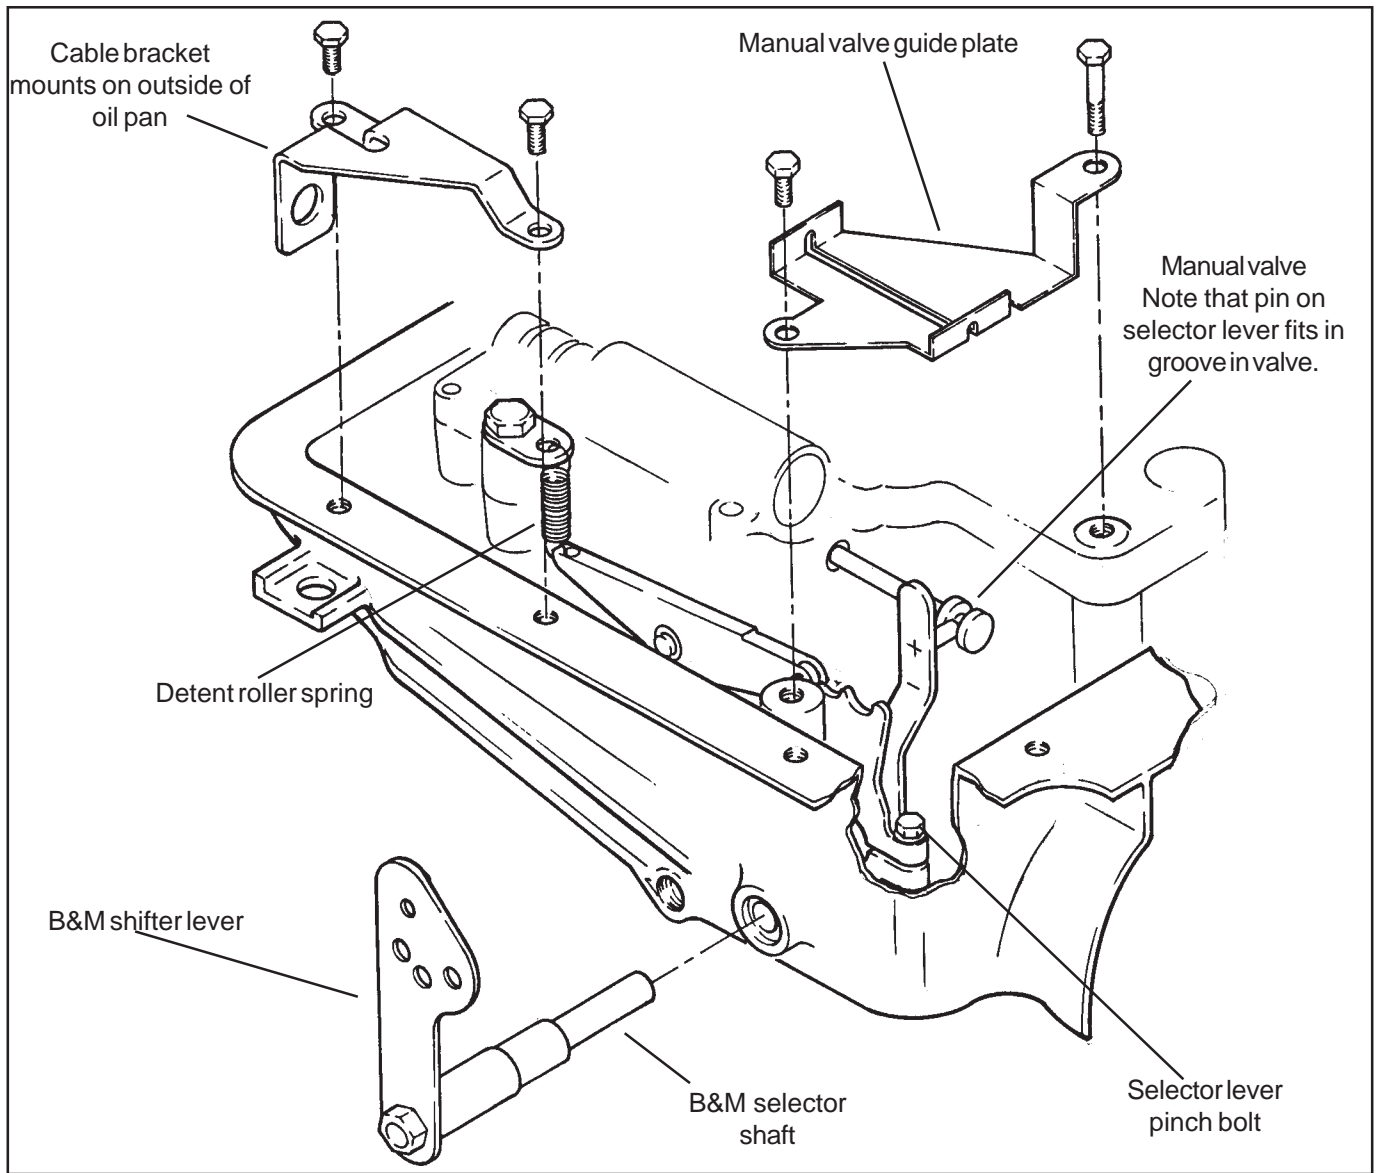

Figure 8
Step 27. Remove the manual valve guide plate by removing the two bolts (**See Figure 8**). Unhook and remove the detent roller spring. Allow the detent roller to pivot out of the way. Note how the pin on the manual valve selector engages the groove in the manual valve.
STEP 33. Install the cable bracket into position with the two remaining pan bolts (See Figure 8). Install the B&M lever onto the shaft with the lever pointing down. If your cable comes from the front (usually a rear engine car) the lever is installed pointing upwards. You will have to make your own cable bracket for this installation.